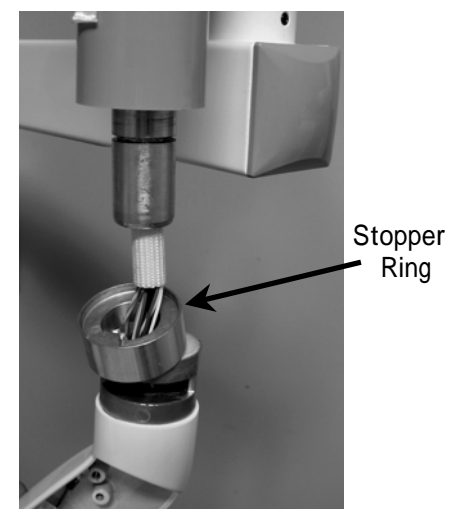

Fig. 5
7. Remove the yoke cover from the new x-ray head and insert the shaft of the balance arm into the yoke of the new head. Do not forget to insert the stopper ring. (Fig. 5)